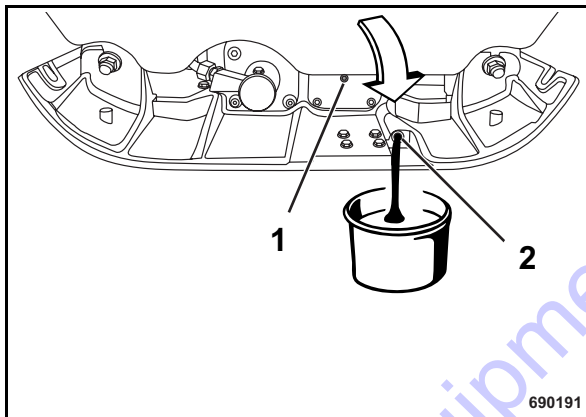

Fig. 71
- Unscrew the bleeding screw (1) (Fig. 71).
- Unscrew oil drain plug (2), drain and catch running out old oil.